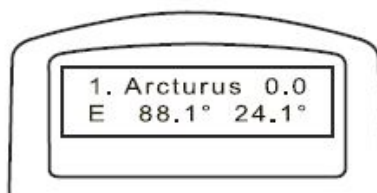

Fig. 40
4. The hand control will generate a list of stars located within this region that are brighter than magnitude 1.5, starting from the brightest to the dimmest. Stars and planets below 10 degrees or higher than 75 degrees above the horizon will be filtered out. The name and magnitude of the alignment star will be displayed on the first line of the LCD. The approximate position will be prompted on the second line. For example, if Arcturus is displayed as an alignment star, and its location (88.1 ° east and 24.1 ° above the horizon) will appear as shown in **Fig. 40** Press **ENTER** to continue.